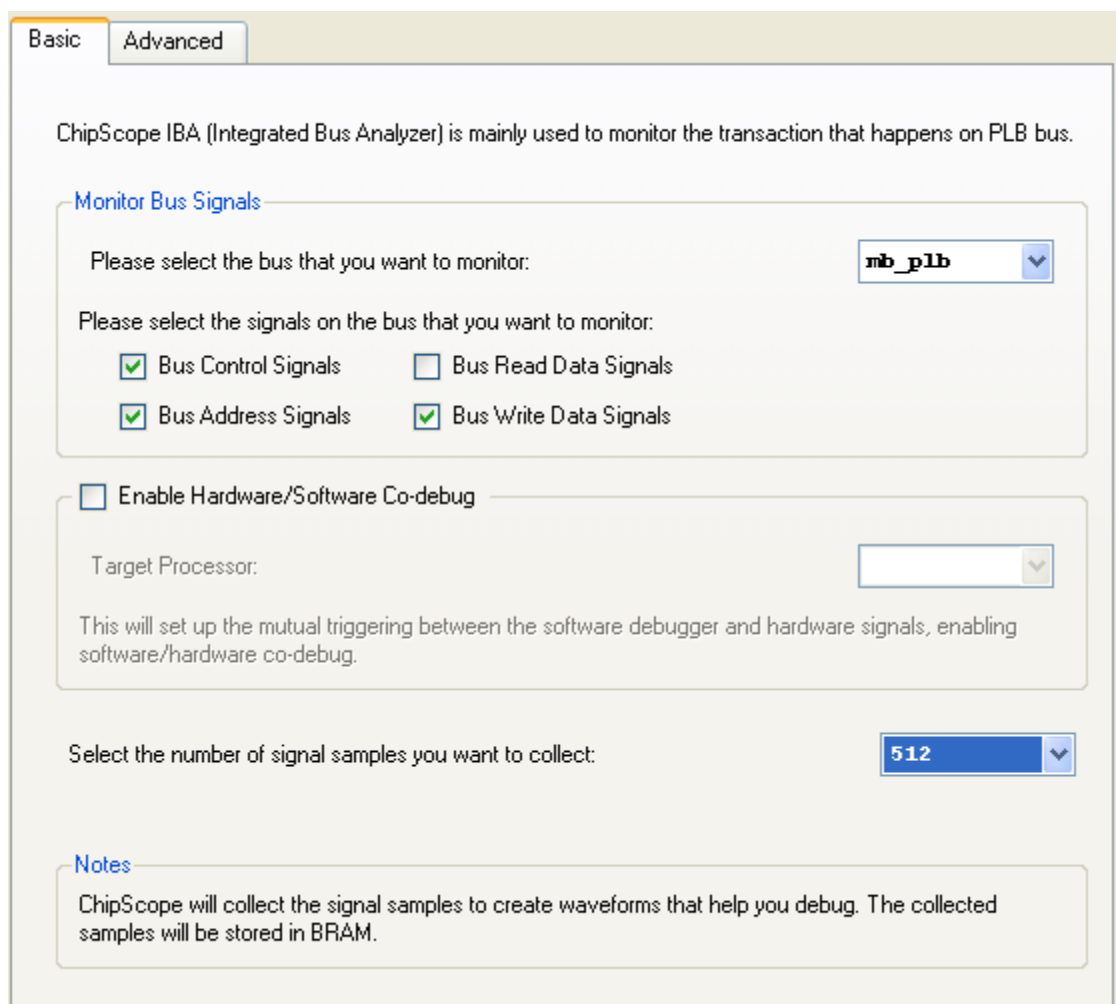

Figure 1-83. Setting Basic Debug Configuration Options for the PLB_IBA
- ③ Click to put a check mark in the **Bus Write Data Signals** field and set the **Select the Number of signal samples you want to collect** option to **512**. Make sure you have the options selected according to **Figure 1-83**.